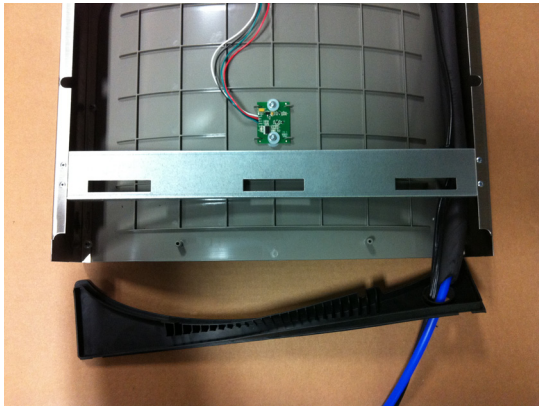

Fig. 8
- 5) Feed power cord & 3/8" water line through hole in tower/basin gasket (See Fig 8).